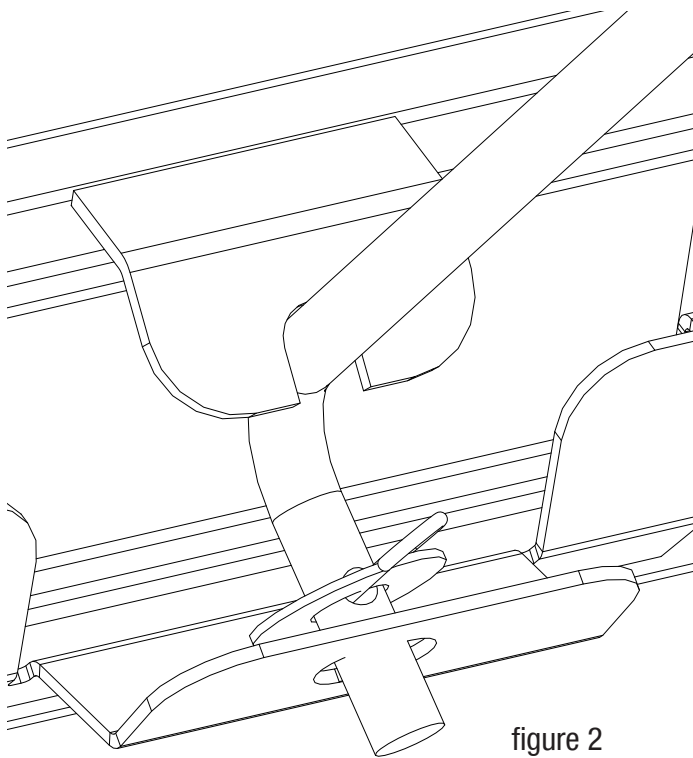

figure 2
Step 1: Insert Rod end into gate slide and lock in place with hair pin clip and washer as shown (see figure 2).